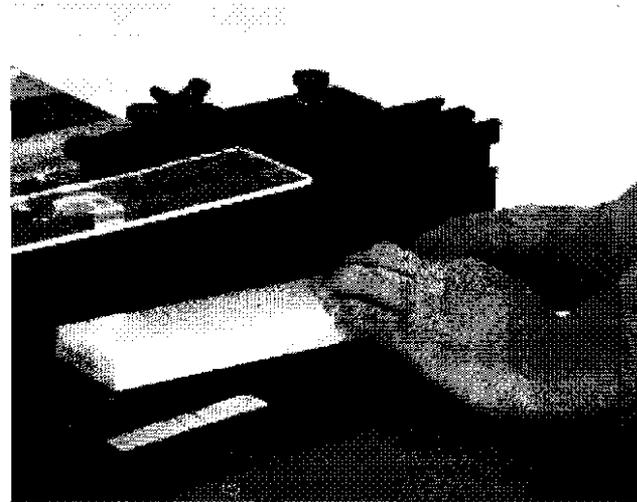

Figure 21 Preparing for the cut
- Plug-in your router motor and turn it on. Grasp your workpiece with both hands. Rest the back edge of the workpiece against the infeed Fence face. Tilt the left edge of the stock up so it's about 1/2" to 3/4" above the tip of the router bit. Using the lines you drew down the front edge of your workpiece as a guide, position the stock so the line representing the left end of your cut is about 1/4" to 1/2" to the left of the line on your masking tape that represents the left edge of your router bit. See Fig. 21.